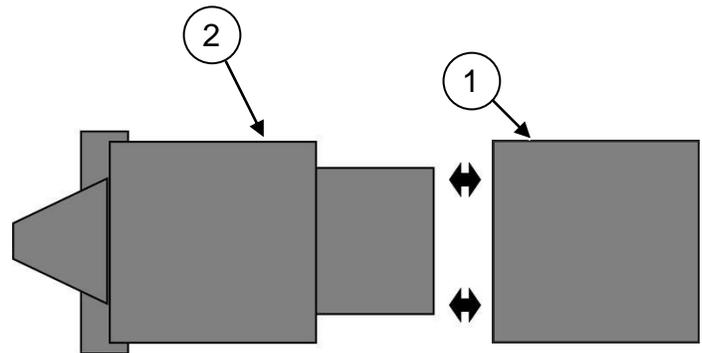

FIG. 7.1
Ensure that the Stacking Accumulator, (1), is mounted squarely to the rear of the baler, (2), as shown in FIG. 7.1. Begin installation procedures with Stacking Accumulator set on a firm, level surface behind the baler. The deck should be evenly spaced behind the baler.